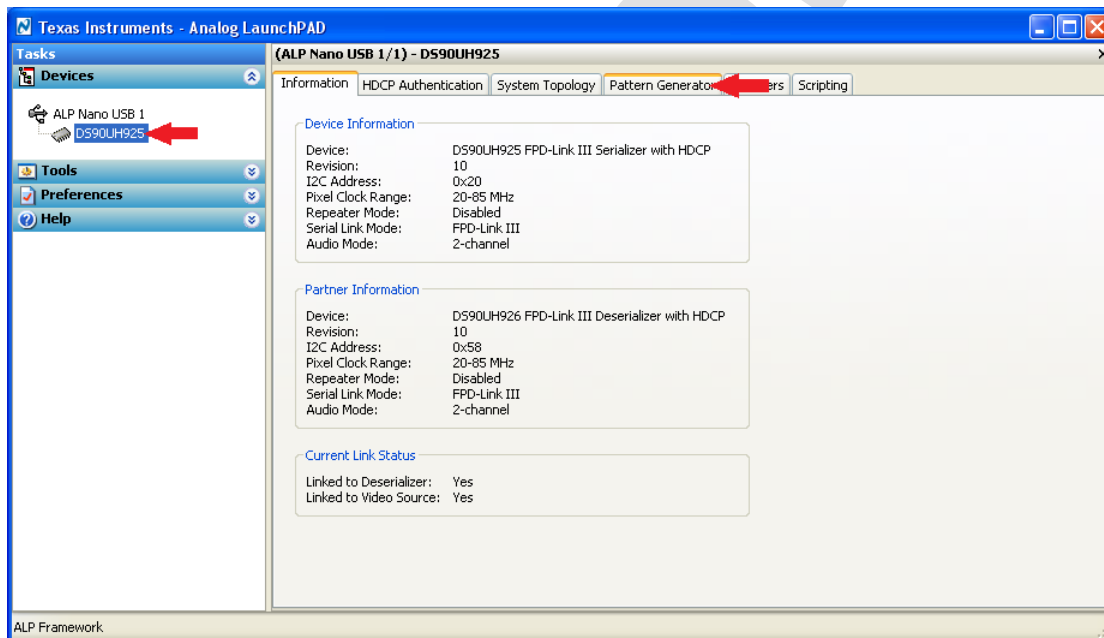

Figure 4-1. Initial Window
1. Connect USB cable to DS90UH925QSEVB and launch ALP. Once DS90UH925 is detected by the software as shown in Figure 4-1, click on the device name and select **Pattern Generator** tab.